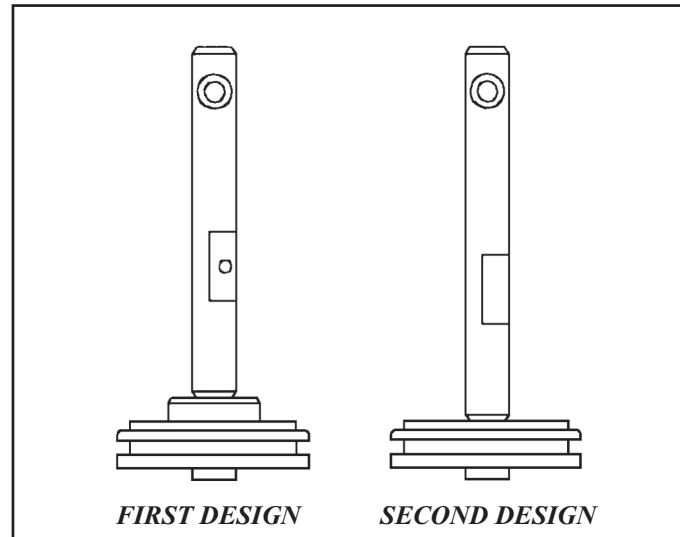

Figure 202
**IMPORTANT:** When installing the servo piston into the case bore, use care not to roll or cut the seal. If the servo piston is being replaced, be sure the proper design is being used as the two designs are NOT interchangeable (See Figure 202).